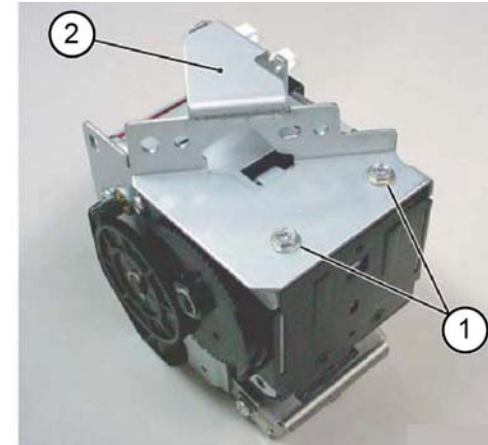

Figure 2 Bracket removal
5. Remove the bracket from the stapler assembly, Figure 2:
- a. Remove two screws (1).
- b. Remove the bracket (2).